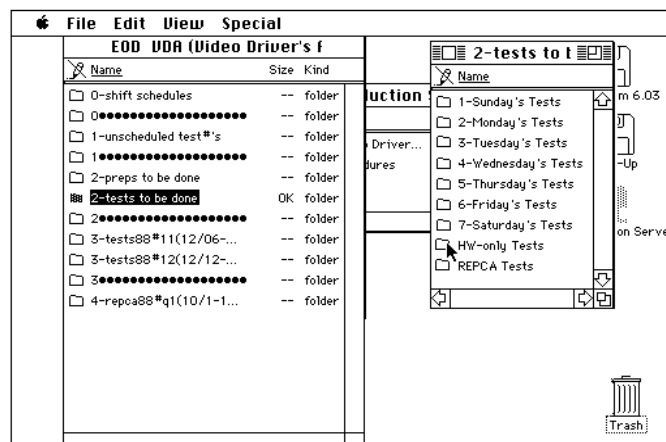

Figure 12
12.2 Position the mouse pointer on the tests folder for the applicable day of the week and double click to open it (the following example is for HW-only Tests). See Figure 12.